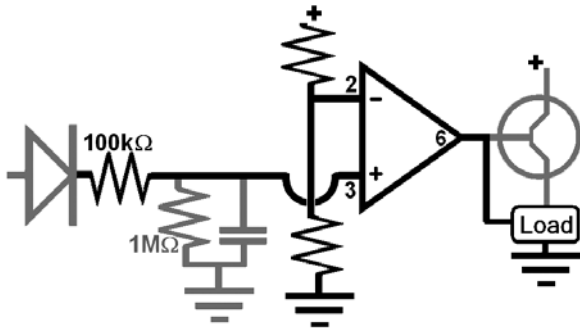

Figure L63-8
3. Figure L63-8 is strictly a digital system. Its inputs can be physical, light, or sound. It will give a Hi output depending on the length and strength of the input signal. Also, this basic voltage comparator is a "voltage follower." This term refers to the fact that the output voltage state (Hi or Lo) matches that of the input. The input signal must last long enough and be strong enough to raise the voltage in the capacitor above half of $V+$ before the 1 M Ω resistor drains it. Vary the timing by changing the value of the capacitor. You can use the same single transistor amplifier from way back in Unit 2. Don't use the single transistor's pre-amp setup.